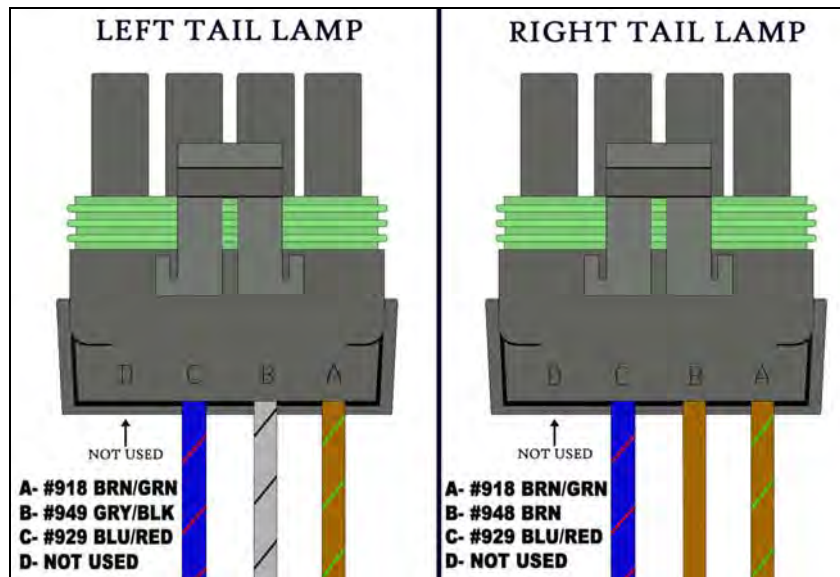

Figure 8.1.5 4 way Tail Lamp Connector
8.1.5 The 3 wires can now be re-pinned into the 4 pin connector from your original harness. See **Figure 8.1.5** for the pin outs